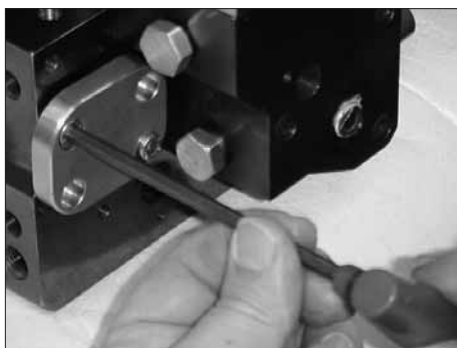

Figure 7-19 Removing the pump shaft end cap
3. See Figure 7-19. Using an M5 hex wrench, remove the four hex bolts securing the pump shaft end cap and then remove the end cap.